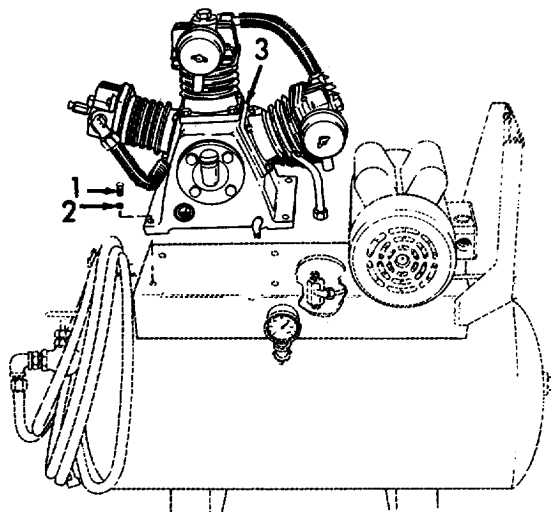

Figure 3-17. Air Compressor, Removal.
- a. *Removal.* (Refer to Figure 3-17).